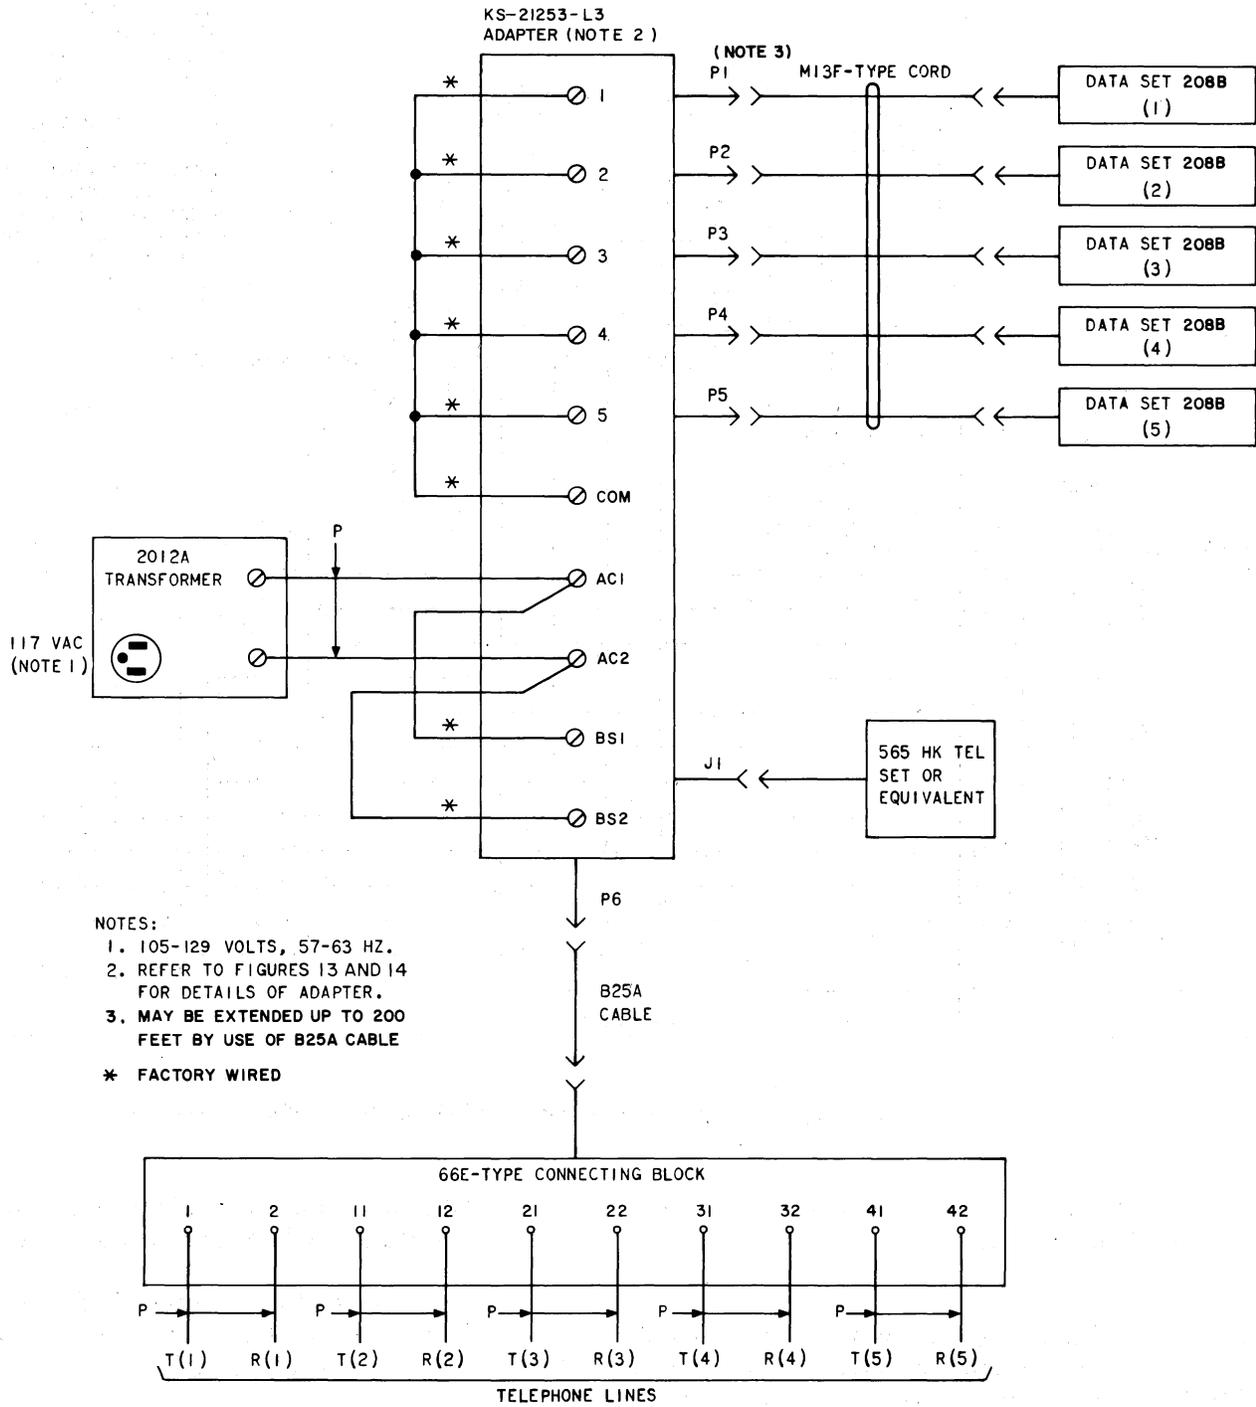

Fig. 5—Connection Diagram—Multiple Data Set 208B-Type W/O ACU Installation
**2.05** For multiple data set installations not requiring an ACU (Fig. 5), the following apparatus must be ordered separately: